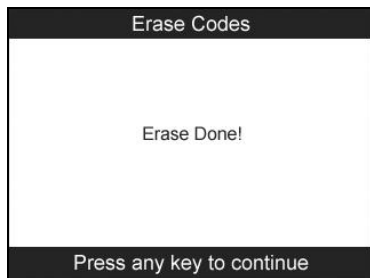

Figure 6.7
- 3) If the codes are cleared successfully, an “**Erase Done!**” message shows on the screen. Press any key to continue. (Figure 6.7)